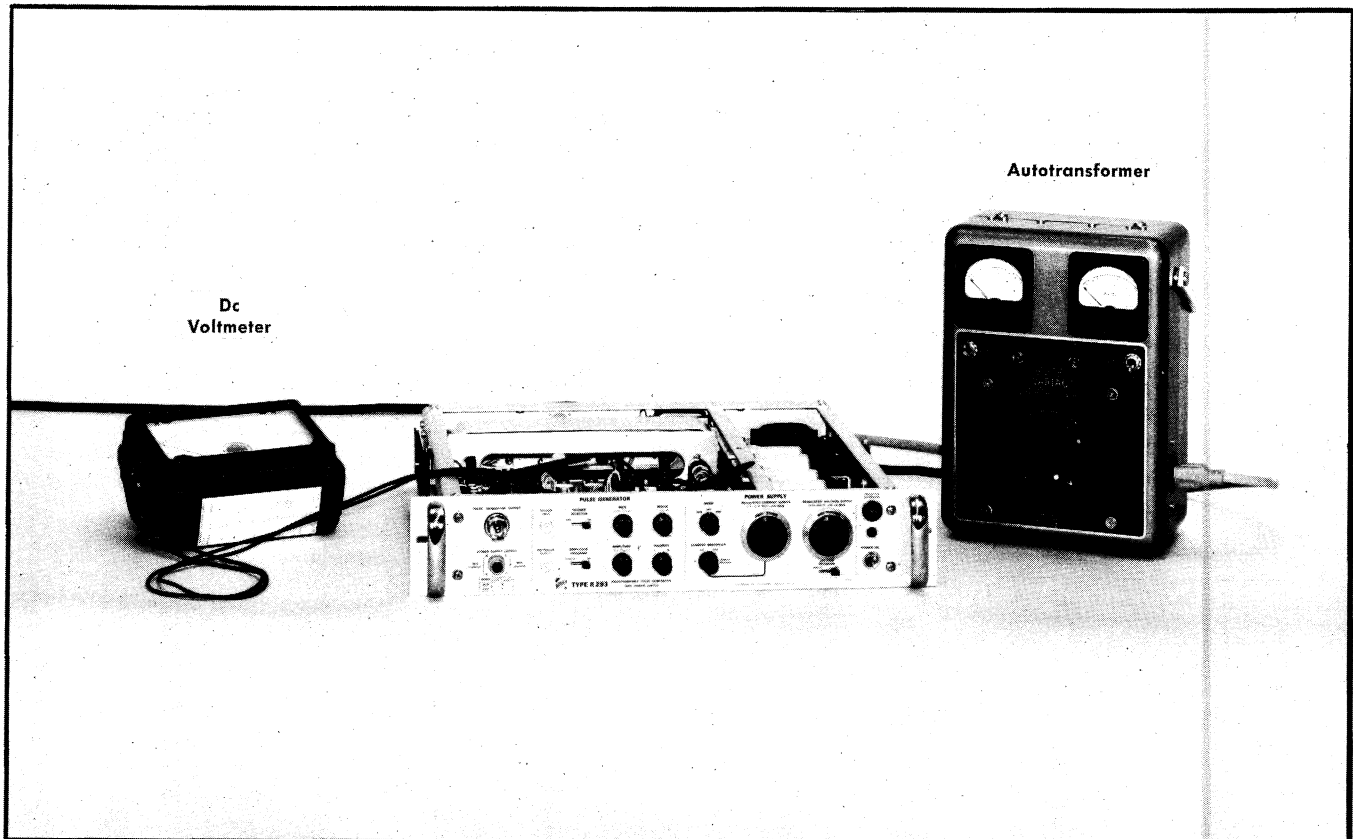

Fig. 6-3. Initial test equipment setup for steps 1 through 3.
- Test equipment setup is shown in Fig. 6-3.